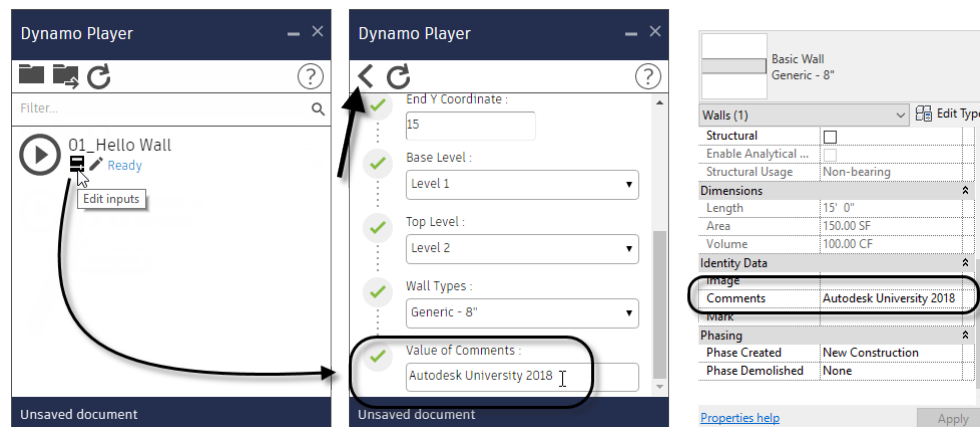

Figure 6
1. Click the small Edit inputs icon directly beneath the name of the script (see the left side of Figure 6).
3. Click the small arrow to return to the script name, then click the run button to run the script, again. Select the wall and check its Properties (see the right side of Figure 6).